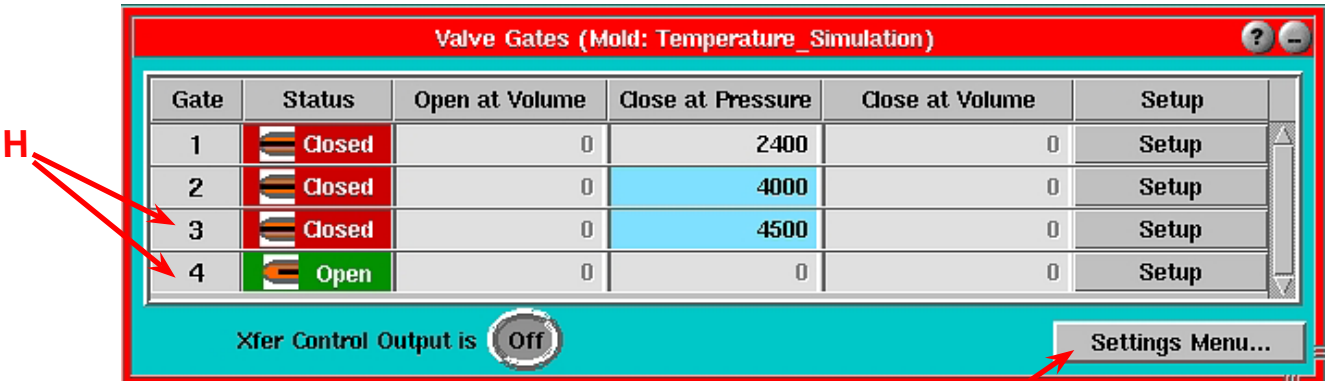

Figure 7: Valve Gates tool
- Q. Close at Pressure Enable:** Check the “Pressure at” box to cause the valve gate to close when the sensor pressure at the right reaches the level set. If enabled, the value can be set from the main Valve Gates screen (Figure 7).